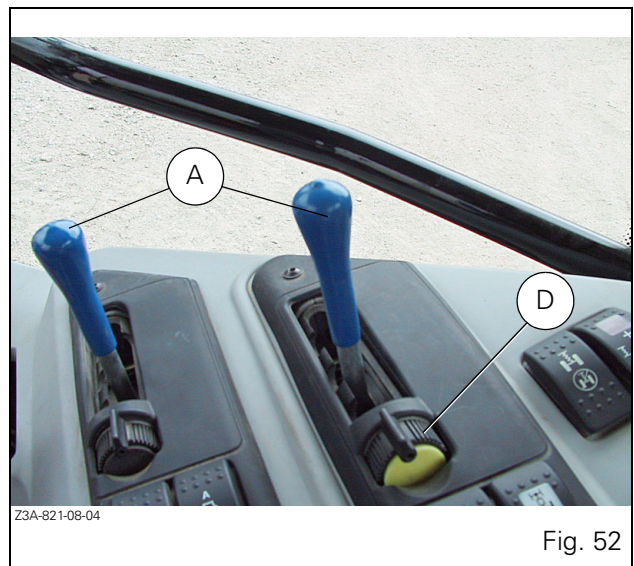

Fig. 52
4.14.4 - Using the control levers (Fig. 52)
- Neutral position (Fig. 52)